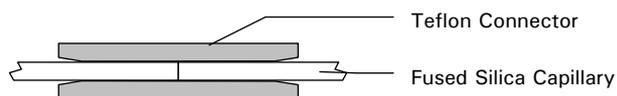

FIGURE 2-5 Low Pressure Connection using a Teflon Sleeve
- d) Connect the other capillary end (FIGURE 2-5). The connection can withstand pressures up to 10 bar (150 psi).